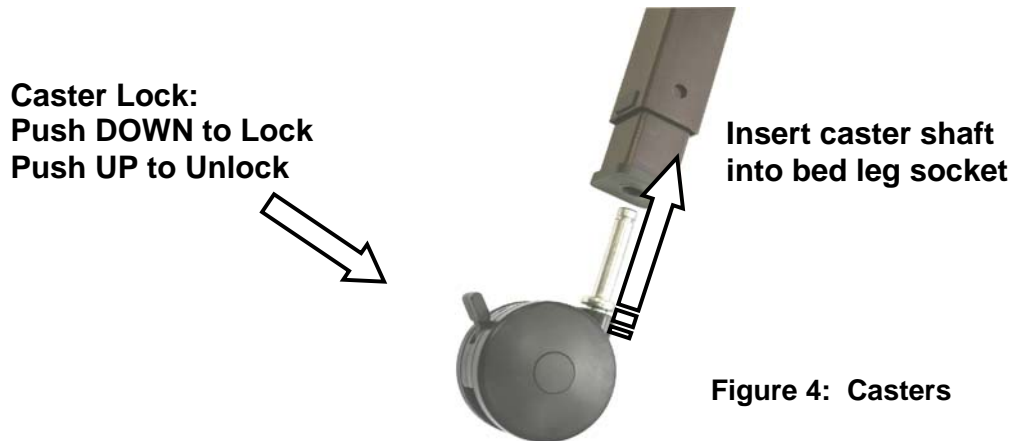

Figure 4: Casters
3. Insert the shaft of the caster into the caster socket of each bed leg. Ensure the stem is fully inserted into the socket. See Figure 4.